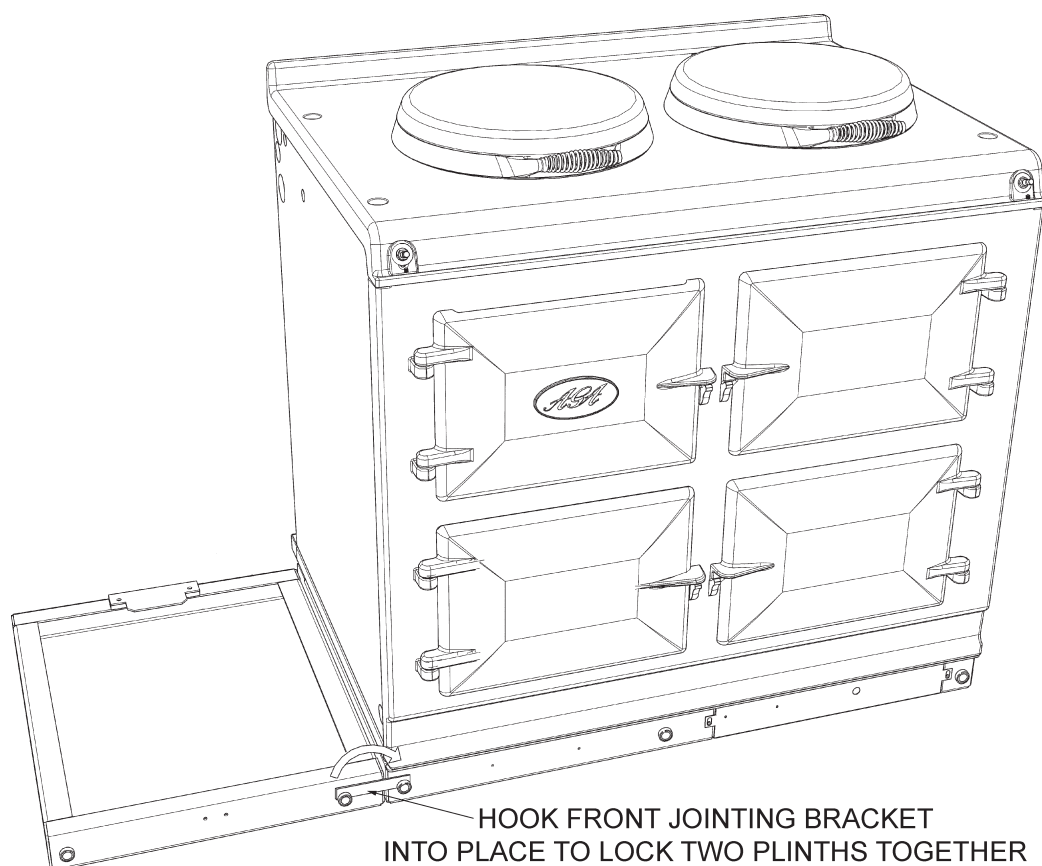

Fig. 19
5. Front jointing bracket can now be hooked into place over the two pot magnets. This will latch the two plinths together. (See Fig. 19)